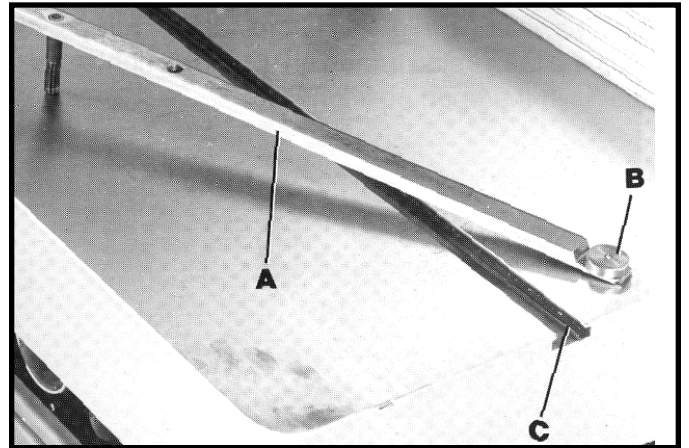

Fig. 45
1. Locate the miter gage bar (A) Fig. 45, and insert washer end (B) of bar into T-slot (C) of shaper table.